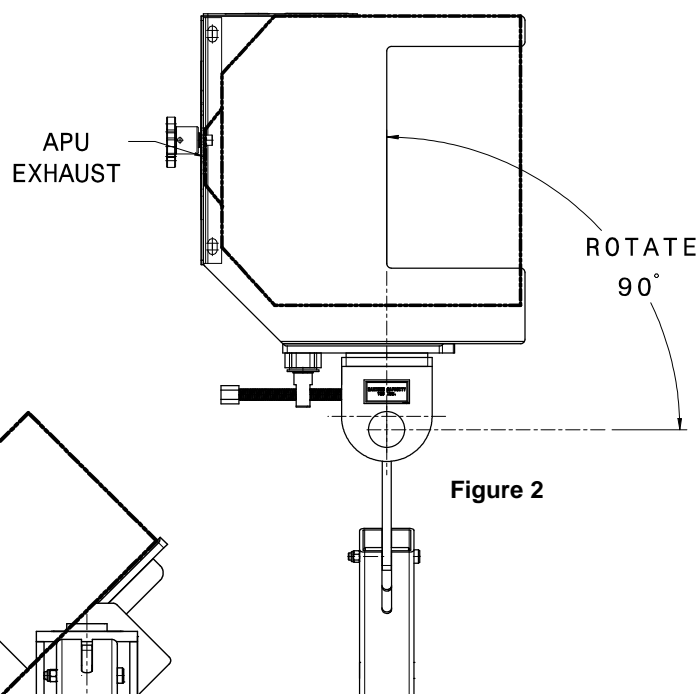

Figure 2
3. Rotate K-4664 90° as shown in Figure 2